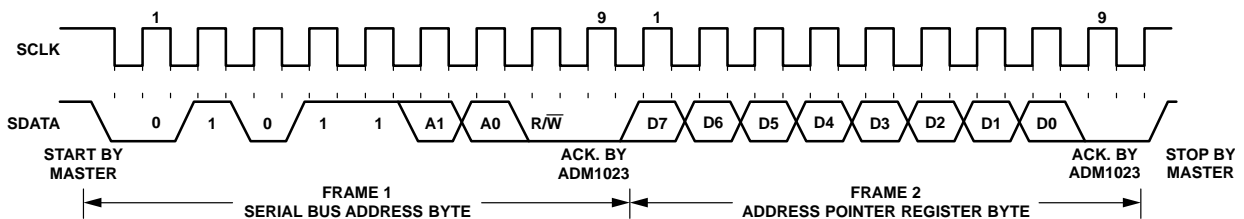
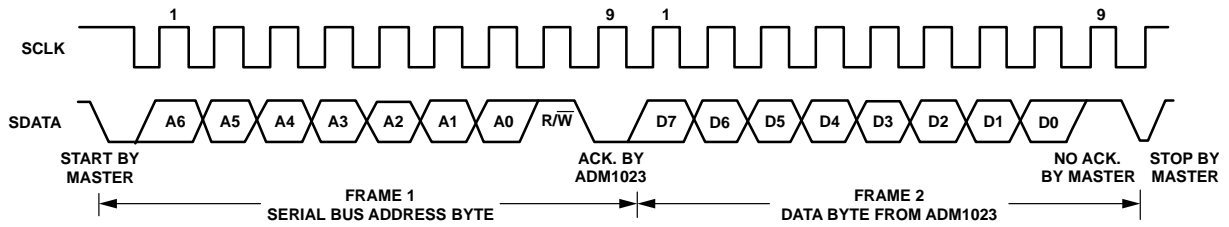

Figure 16. Writing to the Address Pointer Register Only
Figure 17. Reading Data from a Previously Selected Register
1. If the ADM1023's address pointer register value is unknown or not the desired value, it is necessary to set it to the correct value before data can be read from the desired data register. This is done by performing a write to the ADM1023 as before, but only the data byte containing the register read address is sent, as data is not to be written to the register. This is shown in Figure 16. A read operation is then performed consisting of the serial bus address,  $R/\bar{W}$  bit set to 1, followed by the data byte read from the data register. This is shown in Figure 17.